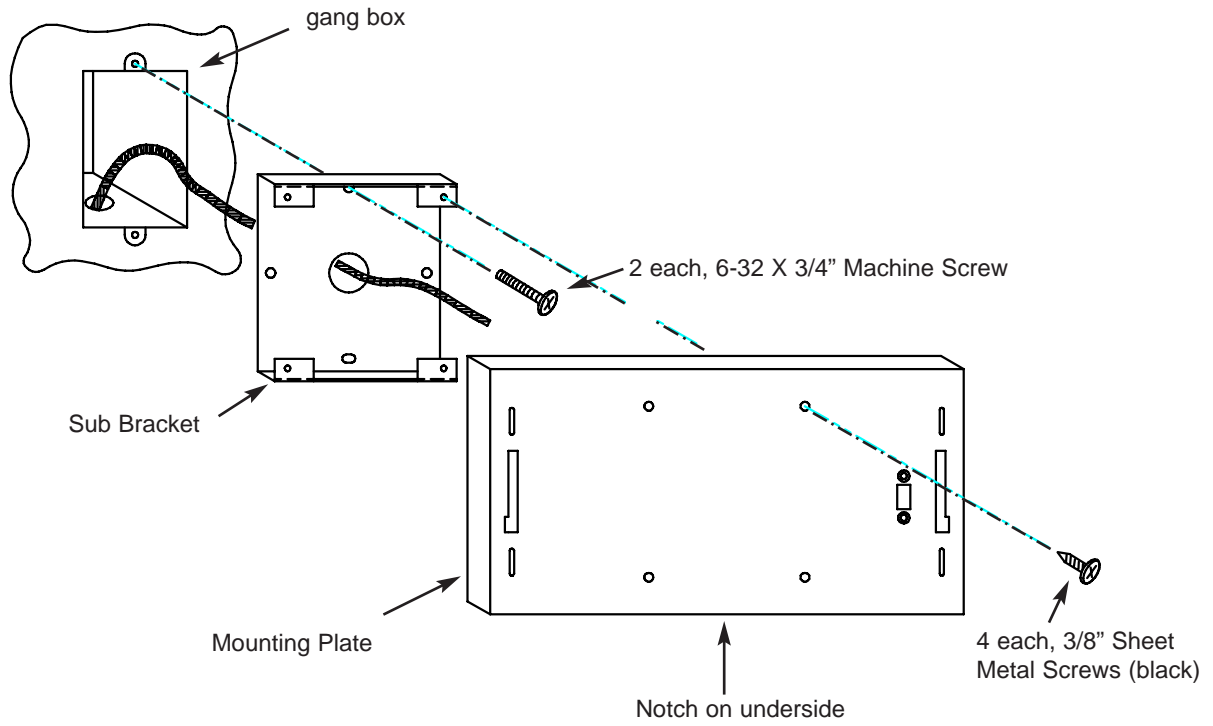

Figure 1
**Gang-box mounting:** Position the sub-bracket as shown in Figure 1. Route the cable through the large hole in the sub bracket and use two (2) 6-32 X 3/4" machine screws to attach the sub bracket to the gang box.
**Surface mounting:** Position the sub bracket against the wall in the desired mounting location (see Figure 1 for the correct orientation of the sub bracket). Make sure that the sub bracket is level and mark the location of the 4 mounting holes in the sub bracket. Install the 4 wall anchors in these locations and mount the sub bracket. Fish the cable through the large hole in the sub bracket if in-wall wiring is used. If using surface-mounted cable, make sure the cable will line up with the notch in the mounting plate and is secured to the wall.
Using the 4 black sheet metal screws (3/8"), attach the mounting plate to the sub bracket (see Figure 1). Check that the mounting plate is level. There is play in both the sub bracket holes and mounting plate holes to allow some leveling adjustment. Snap the ProMatrix control panel onto the wall mount assembly.